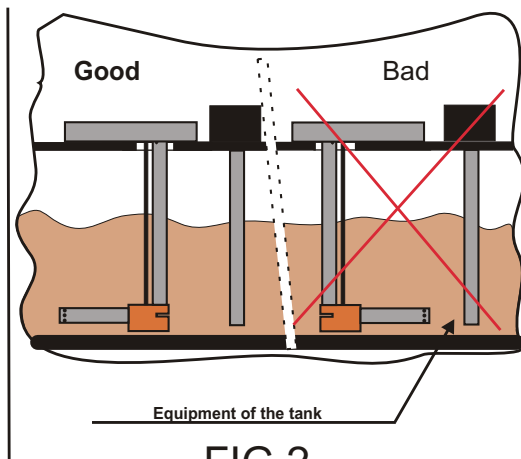

FIG.2
- the indicator's converter should not be located near the fuel return pipe - in order to maintain this principle the reference pipe should be directed in the opposite side of the return pipe. The fig.2 illustrates the above situation.